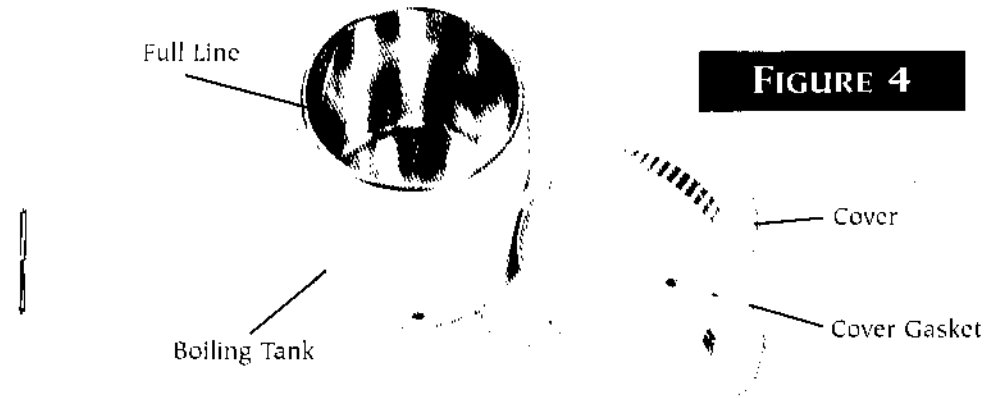

FIGURE 4
5. Fill stainless steel boiling tank to "FULL" line with approximately 1 gallon (4 liters) of ordinary tap water. **DO NOT OVERFILL.** (fig.4).
3. Fill stainless steel tank to "FULL" line with approximately 1 gallon (4 liters) ordinary tap water (fig. 4). Distilling cycle time is shortened if you use HOT water.